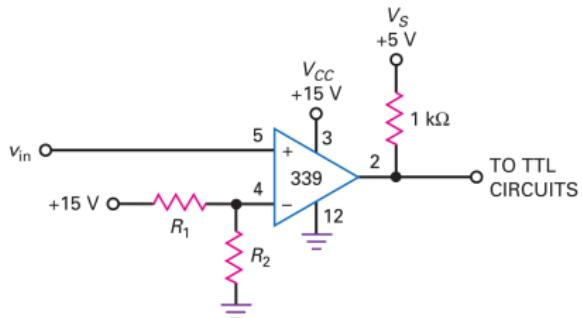

Figure 23: LM339 comparator
- ▶ Fig. 23 shows how an LM339 can be connected to interface with TTL devices.